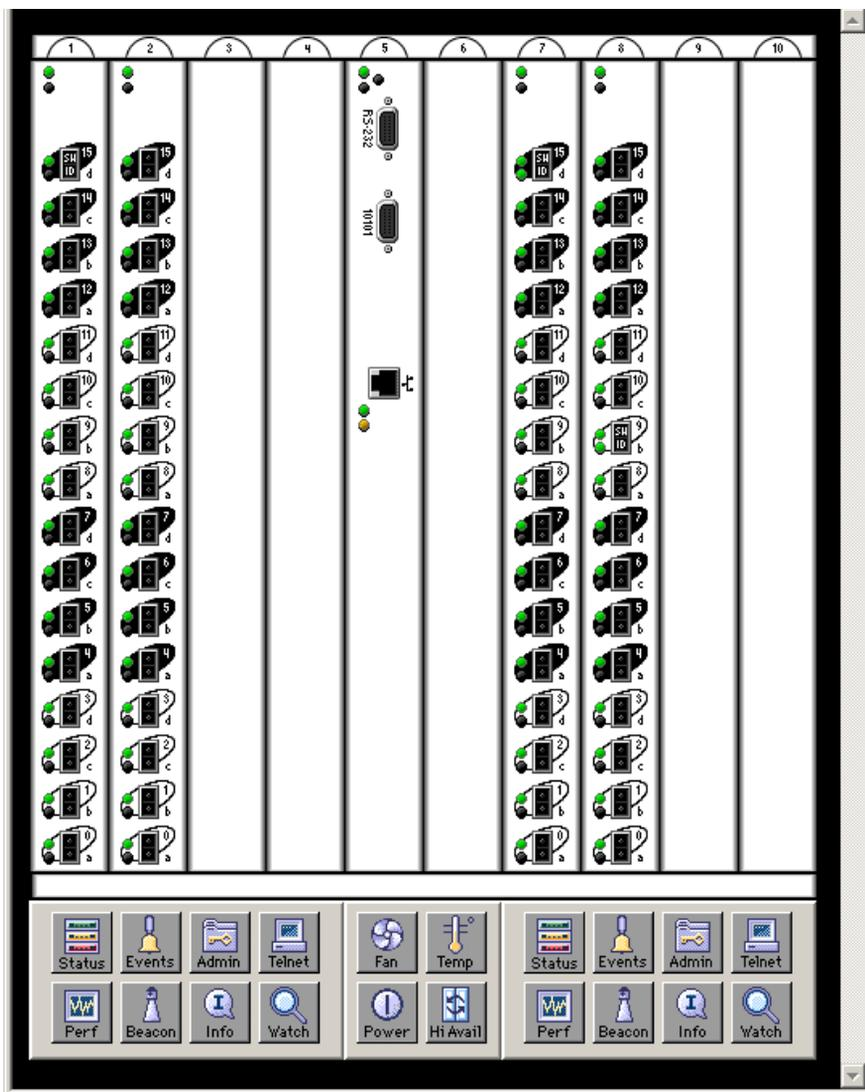

Figure 4: Switch View in Web Tools
2. Click on the **Switch** icon of the switch you want to monitor. This will launch the Switch View, see Figure 4.